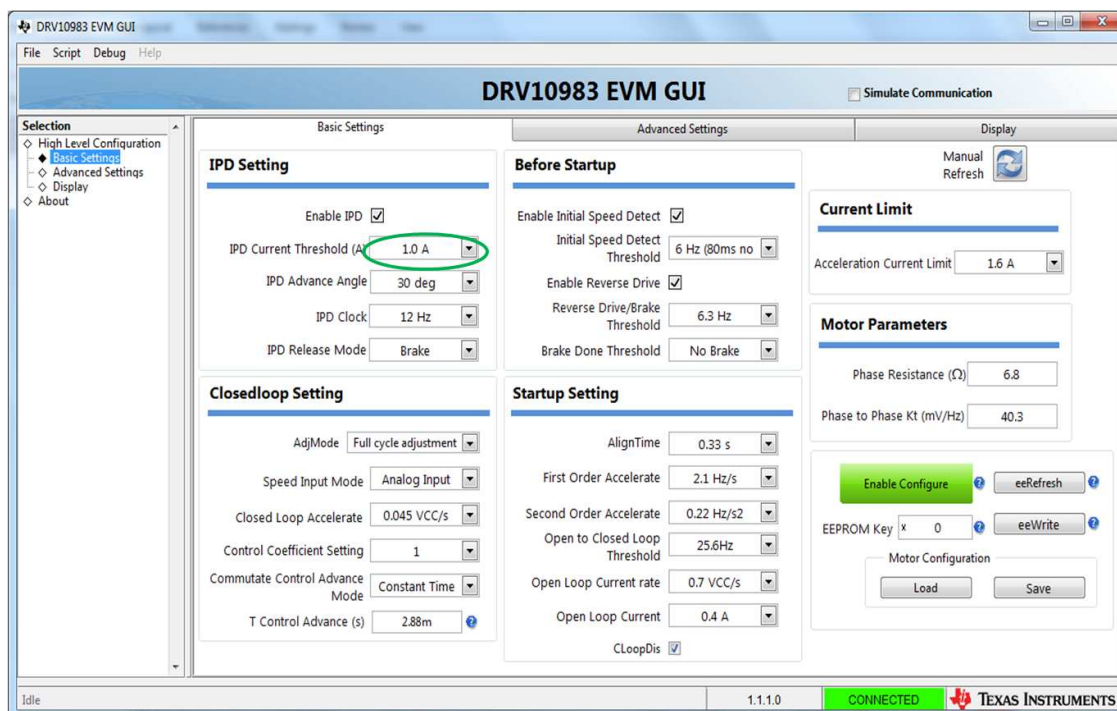

Figure 8. DRV10983x/75 EVM GUI Screenshot
- Step 4. Set 'IPD Current Threshold (A)' parameter to rated motor current (see Figure 8). If the rated motor current is not known, then calculate IPD current threshold based on Equation 4.